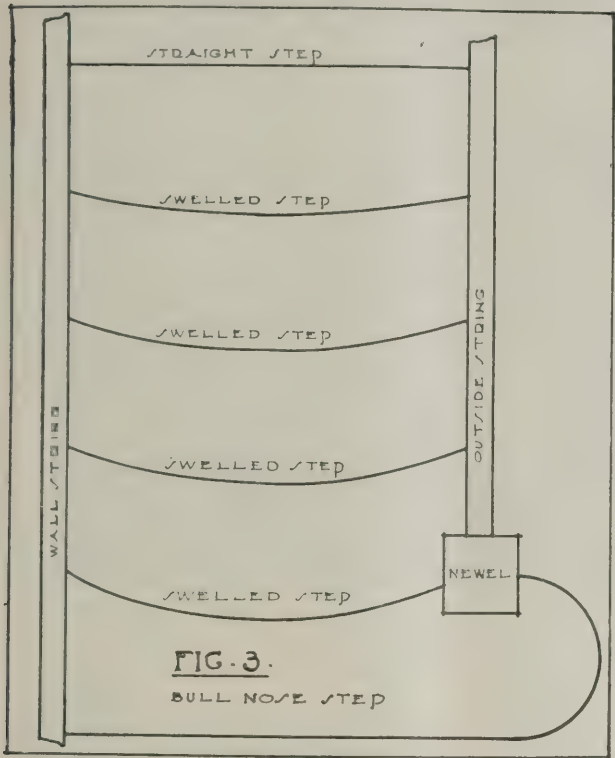

FIG. 3. METHOD OF LAYING OUT SWELL AND BULL NOSE STEPS
**BULL-NOSE STEP**—The lower step rounded to a semi-circle. Figure 3.
**SWELLED STEPS**—Steps having an outward curve. Figure 3.
**NEWEL**—The main post where the stairs begin. It is generally larger and more highly ornamental than the other posts. Figure 3. Post No. 1.